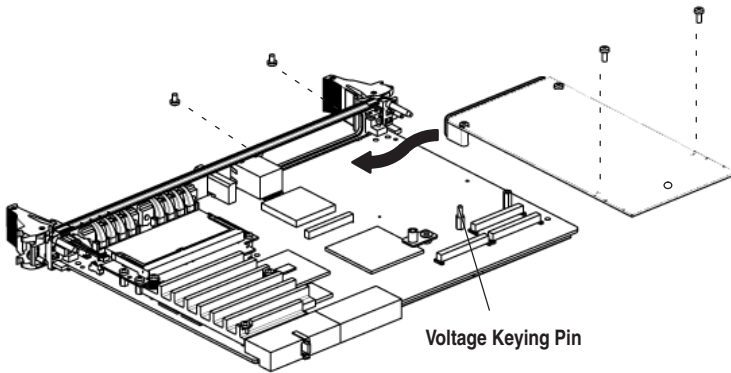

Figure 11: PMC module installation
4. Tighten the delivered four screws on the PMC module as shown in figure 11.